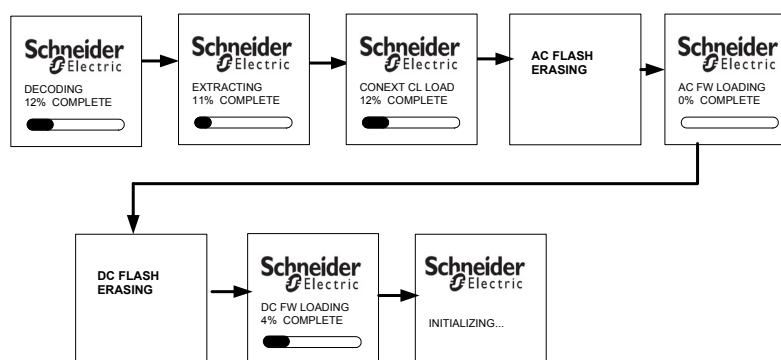

Figure 1-8 Firmware upgrade screen
15. Once rebooted, firmware upgrade will continue as shown in Figure 1-8 on page 1-7.